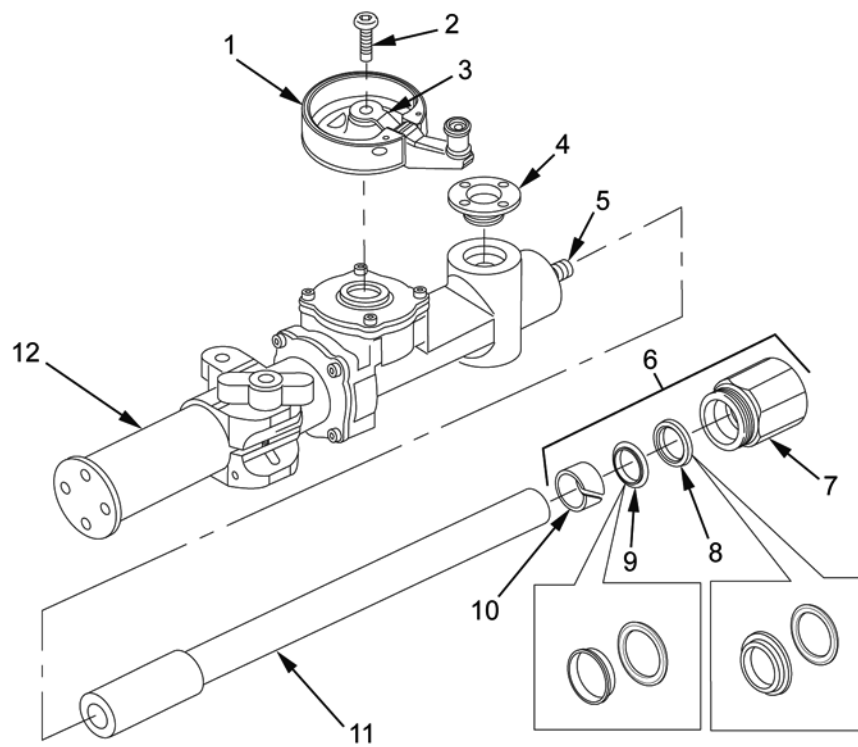

Figure 1. Removal of Hand Crank and Special Nut Assembly.
3. Remove plain seal (Figure 1, Item 8), plain seal (Figure 1, Item 9), and sleeve bushing (Figure 1, Item 10) from special nut (Figure 1, Item 7). Discard seals and bushing.
4. Unscrew elevation shaft assembly (Figure 1, Item 11) and remove from straight shaft (Figure 1, Item 5).
- Flat spring (Figure 1, Item 3) is a component of hand crank and may come loose during disassembly.
5. Remove socket head capscrew (Figure 1, Item 2) and hand crank (Figure 1, Item 1).